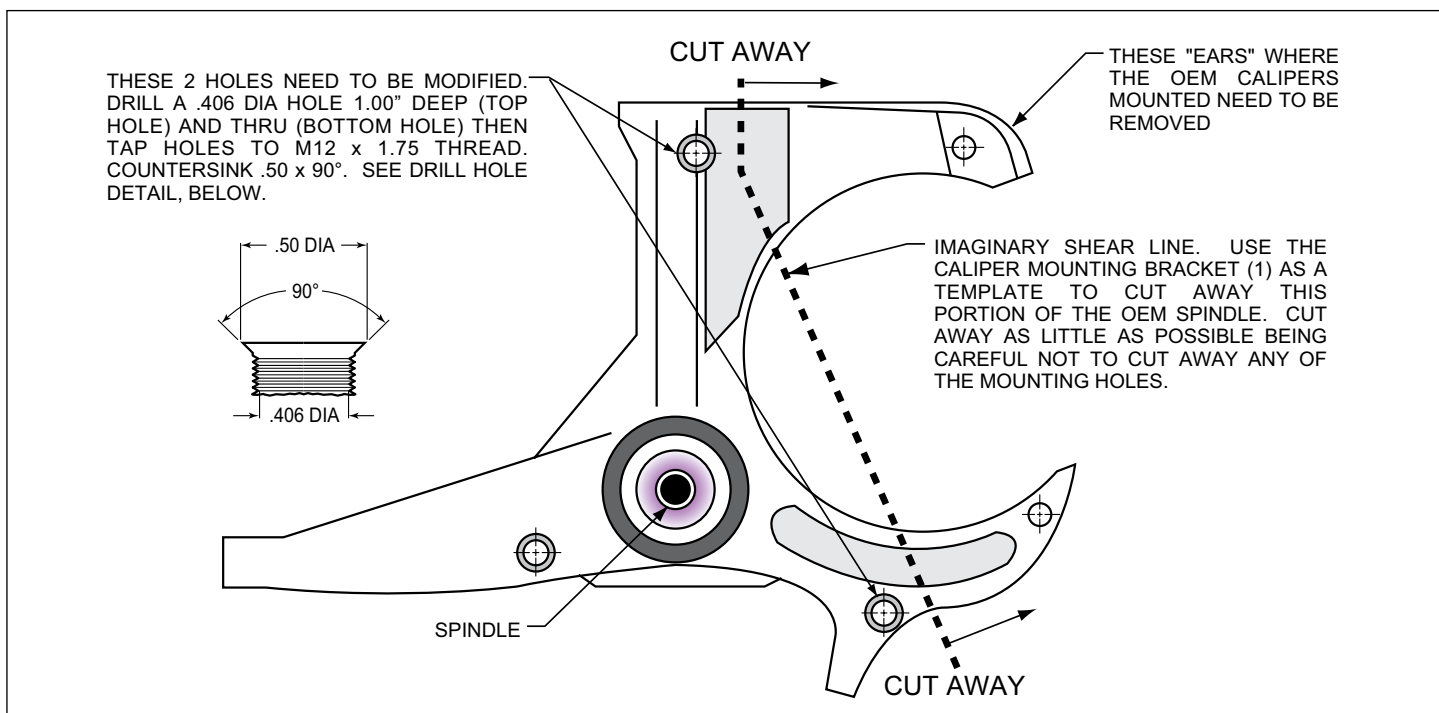
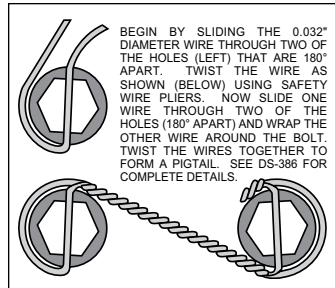

Figure 1. Steering Arm / Spindle Modifications
Figure 4. Safety Wire Diagram
NOTE: These modifications should be performed by a qualified machinist and completed before assembly of the Wilwood disc brake kit begins. Refer to Figure 1. Only one view of the steering arm/spindle is shown, but the modifications need to be performed on both steering arm/spindles.
The two OEM holes that will be used to mount the caliper mounting bracket (1) need to be modified. Drill a .406 diameter hole, 1.00" deep (top hole) and thru (bottom hole), Figure 1, then tap holes to M12 x 1.75 thread. Countersink the holes to .50 x 90°. The "ears" that protrude to form a "C" shape need to be removed to facilitate the installation of the Wilwood kit. Using the bracket as a template, mark two cut marks on the steering arm. Remove as little as necessary from the "C" shape, being careful not to cut away any of the mounting holes required to bolt on the bracket.
- Orient the rotor (9) and the hat (10) as shown in Figure 1 and Photo 4. Attach rotor to hat using bolts (11) and washers (12). Apply red *Loctite*® 271 to the bolt threads and torque to 155 **in-lb** using a criss-cross pattern. For an added measure of security, the bolts may be safety wired using standard 0.032 inch diameter stainless steel safety wire as shown in Figure 4. Refer to Wilwood's data sheet DS-386 (available at www.wilwood.com/Pdf/DataSheets/ds386.pdf) for complete safety wire installation instructions.
- Pack the small outer bearing cone (13) with high temperature disc brake bearing grease and install into hub (6). Slide the hub assembly onto the spindle. Secure using spindle washer (14) and OEM spindle nut, Photo 5. Adjust bearings per OEM specifications. Install saved OEM nut lock (if any) and a new cotter pin (not included).
- Slide the hat/rotor assembly (9/10) onto the hub (6) taking care to align the small countersunk holes in the hat (10) with the small threaded holes in the hub. **NOTE:** The hat must fit flush against the hub face or excessive rotor run out may result. Install three flat head screws (17) through the small holes in the hat (10), Photo 6, and torque to 85 **in-lb**.
- **NOTE:** This kit contains distinct right and left hand calipers that must be mounted in a specific direction, as described below. Initially place two .035" thick shims (22) on each stud (21) between the caliper and the bracket, as shown in Figure 1 and Photo 7. Mount the caliper (18) onto the bracket (1) using lock nuts (19) and washers (20), Figure 1. Ensure that the caliper is mounted so the largest pistons are at the rotor exit end of the caliper, in relation to the direction of rotor rotation. Temporarily tighten the lock nuts and view the rotor through the top opening of the caliper. The rotor should be centered in the caliper, Photo 8. If not, adjust by adding or subtracting shims (4) between the bracket and the upright. Always use the same amount of shims on each of the two mounting bolts. Once the caliper alignment is correct, remove the bracket mounting bolts one at a time, apply red *Loctite*® 271 to the threads, and torque to 60 ft-lb.